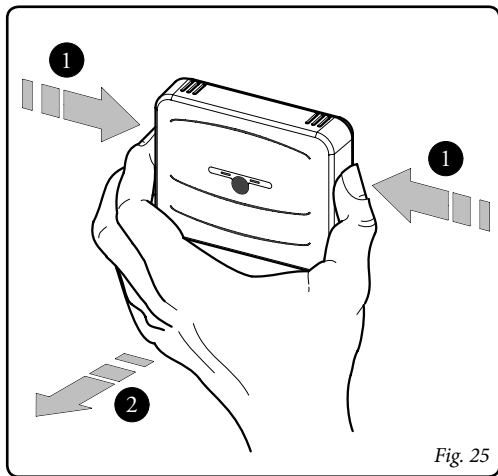

Fig. 25
- Release the bottom from the lid of the CRONO 7 Base, by pressing the sides of the lid with force (fig. 25).